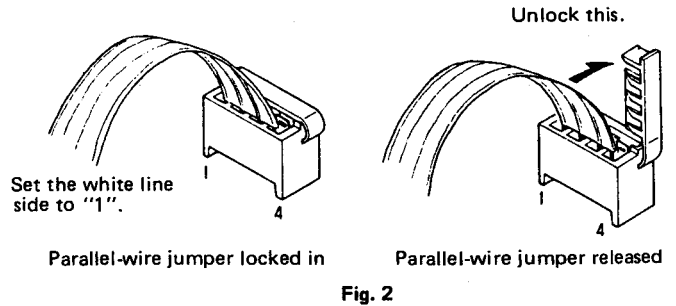

Fig. 2
3. When removing the parallel-wire jumper from the connector, undo the connector lock as shown in Fig. 2.